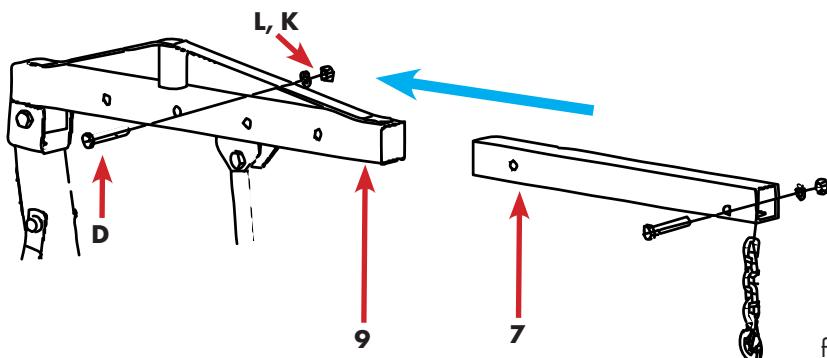

fig.15
- Slide the boom into the support arm so that the hole in the boom aligns with one of the four holes in the boom to secure at the desired load. Siehe fig.15.
Legend Figure 15 (see also from page 15, Figure 2 and Table 1)